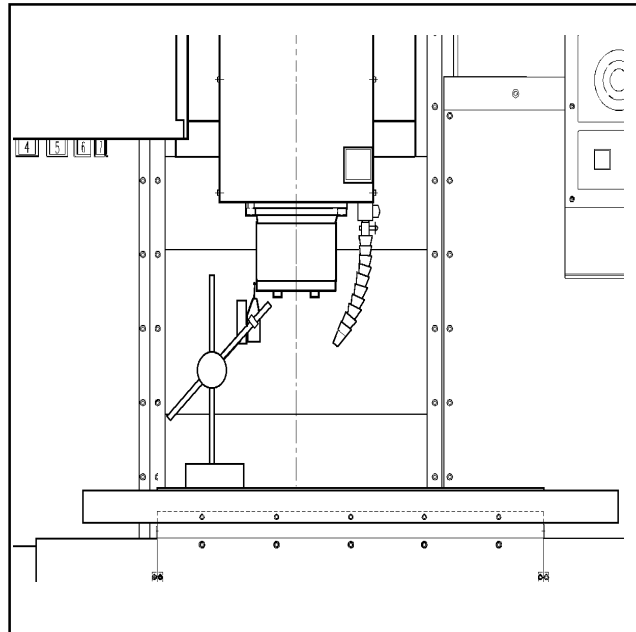

Fig. 3-1 Dial indicator in position to check X-axis.
1. Set up a dial indicator and base on the mill table as shown in Fig. 3-1.
An alternate method for checking backlash is to place the dial indicator as shown in Fig. 3-1 and